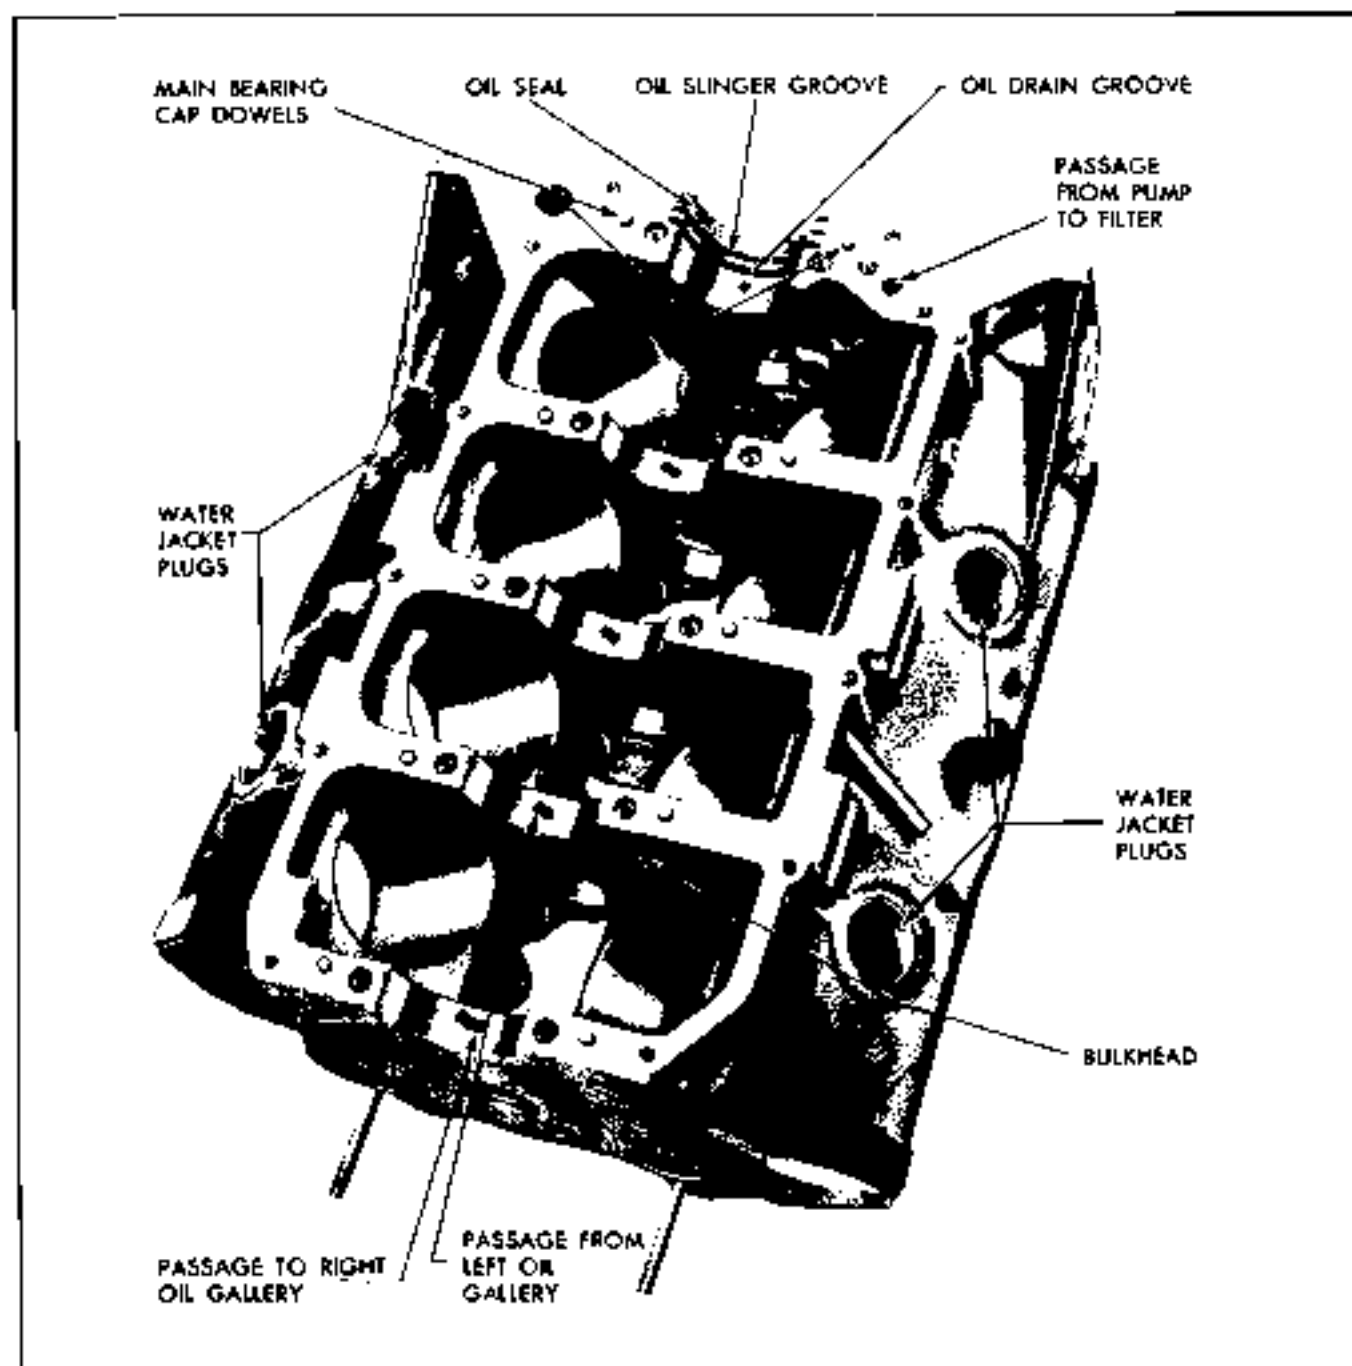

Fig. 6-130 Cylinder Block - View From Bottom
1. With cylinder block inverted, use pen light to see that passage from oil pump to filter is open (Fig. 6-130).
3. Visually check passage from each main bearing to corresponding camshaft bearing (Fig. 6-130).